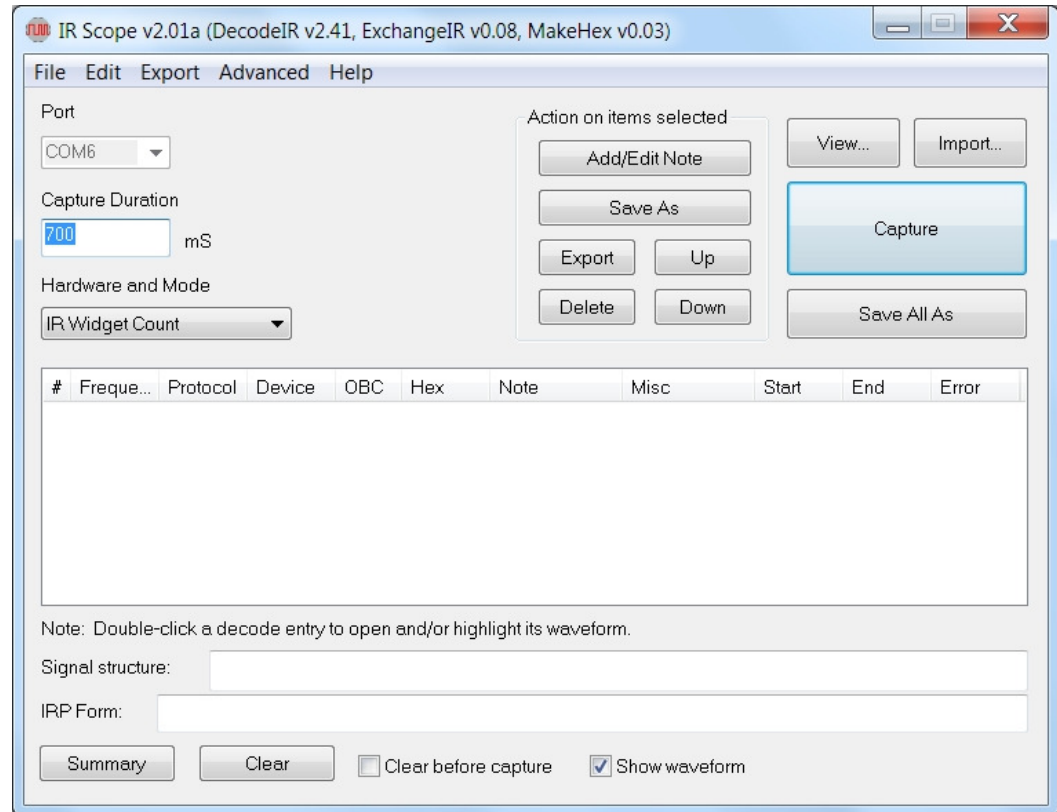

Figure 2. Default Main Window
4. THE MAIN WINDOW After plugging in your **Widget** and opening **IRScope** the main operating window will look something like Figure 2 below. It contains all of the **Widget** controls, and will remain on your screen as long as your recording session is active. The large blank area in the center is the decode area. It will list all the signals you capture, and also those you retrieve from previously saved records.
Port This must be set to the virtual COM port your **Widget** is connected to. There are two ways to set it, manual and automatic. If you drop down the **Advanced** tab menu and check the **AutoLocate Widget** option, then each time you open **IRScope** the computer will search through all the ports to find the **Widget**, and automatically select that port. It indicates this by greying out the **Port** box, as shown in Figure 2, and you can't change it. If you un-check the **AutoLocate Widget** option, then each time you open **IRScope** the **Port** box will be highlighted, letting you know that the port number shown may or may not be correct. If you get a port error message when you try to make a capture, drop down the list of COM ports and manually select the one that **Device Manager** says you are connected to.